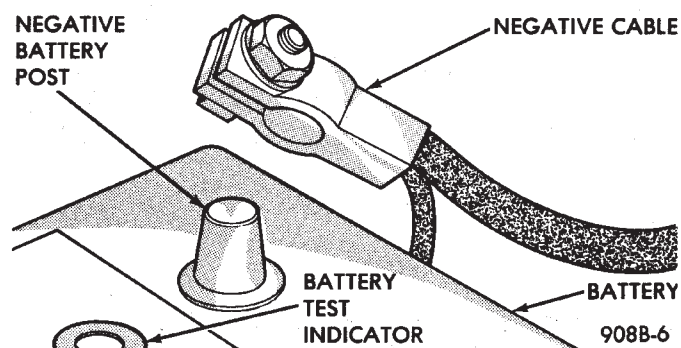
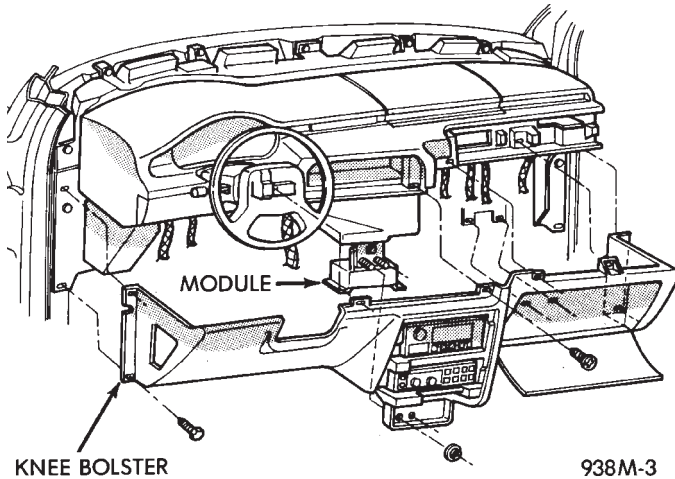
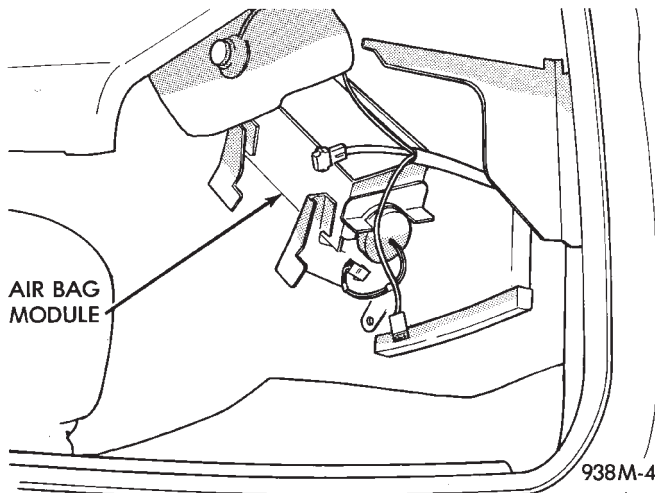
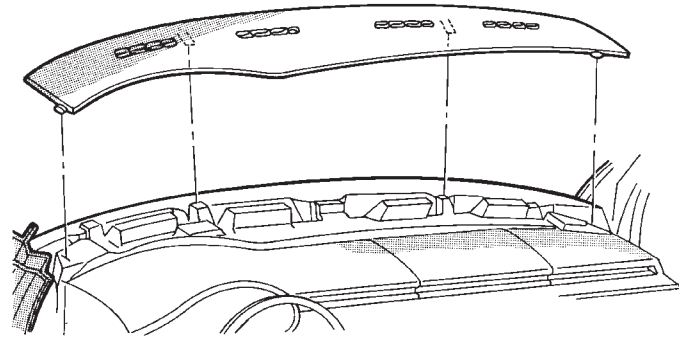

Fig. 6 Remove or Install Battery Cable
Fig. 7 Remove Knee Bolster
Fig. 8 Passenger Module
Fig. 9 Top Cover
- (1) Disconnect and isolate the battery negative cable (Fig. 6).
- (2) Open glove box and push the sides inward to allow the door bumper to pass and allow box to open fully.
- (3) Remove the four module attaching screws from inside of glove box opening (Fig. 7).
- (4) Remove knee bolster and right spot cooler.
- (5) Disconnect wire connector from module.
- (6) Lift module up and turn so it can be lowered through the mounting bracket (Fig. 8).
- (7) For installation, reverse above procedures.
- (2) Roll/fold air bag towards instrument panel.
- (3) Close door over folded air bag and tape door closed.
- (4) Open both vehicle doors and remove both instrument panel end covers.
- (5) Open glove box. Remove four screws attaching the module to knee bolster and remove knee bolster (Fig. 7).
- (6) Remove center distribution duct.
- (7) Remove instrument panel top cover:
- (a) Carefully, pry up each end of top cover to disengage clips (Fig. 9).
- (8) Remove ash receiver and center bezel.
- (2) Remove two headlamp pins and remove headlamp.
- (3) Remove four headlamp carrier fasteners and remove headlamp carrier.
(1) Disconnect and isolate the battery negative cable (Fig. 6).